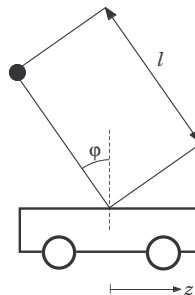

Figure 8.2 Inverted pendulum in exercise 8.5.
8.5 When walking, the body is kept in upright position by a regulatory system. This balancing of the body can be simplified to the problem of controlling an inverted pendulum positioned on a cart, by moving the cart. In Fig. 8.2, a schematic of this inverted pendulum is given.